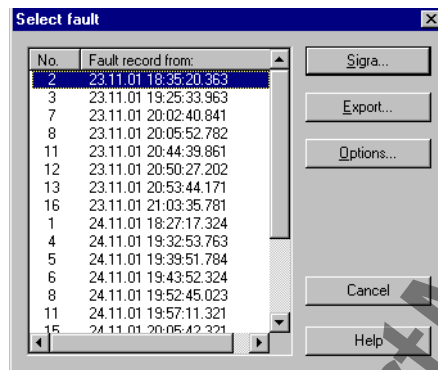

Figure 6-13 Select fault window in DIGSI
- ❑ Double-click **Fault recording**. The Select fault window opens (Figure 6-13, page 217).